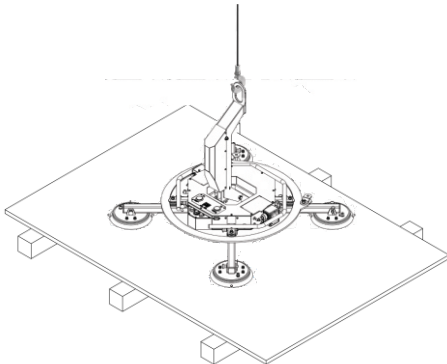

Figure 2.3
**Step 3:** Move the lifer close to the glass sheet surface (Figure 2.3).